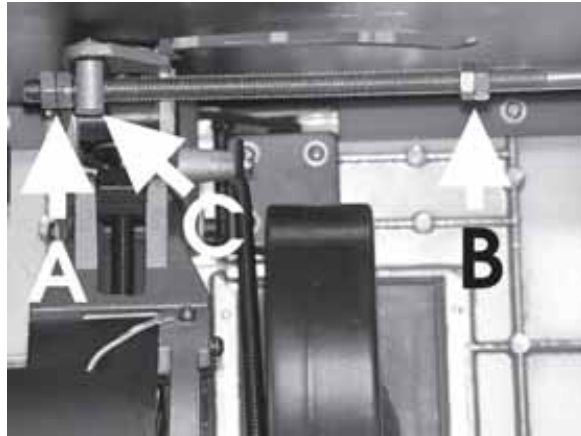

Fig.22
- (a) Undo the locknut and spin the adjuster nut shown at 'A' Fig 22